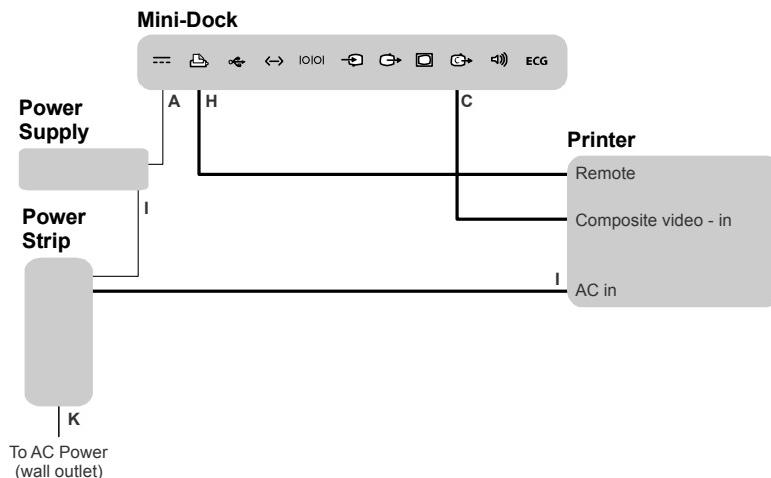

Figure 3 Connectivity of System and a Printer on MDSm
| Connect cables | <ol style="list-style-type: none"> <li>1 Lock the wheels and remove back panel.If installing an older black-and-white or color printer, you may need to move padded screws to back holes.</li> <li>2 Ensure that the pre-routed DC power cord (A) is connected to the mini-dock and that the pre-installed AC power cord (I) is connected to the power strip.</li> <li>3 Connect the cables. See <a href="#">Figure 3</a> on page 9 and <a href="#">“Cables, connectors, and mini-dock symbols”</a> on page 14. <ul style="list-style-type: none"> <li>• Pre-routed print control cable (H)</li> <li>• Printer AC power cord (I)</li> <li>• Pre-routed composite video cable (C)</li> </ul> </li> <li>4 Connect system power cord (K) to a hospital-grade electrical outlet.</li> <li>5 Install the back panel (vents at the top) by sliding panel up and in.</li> </ol> |